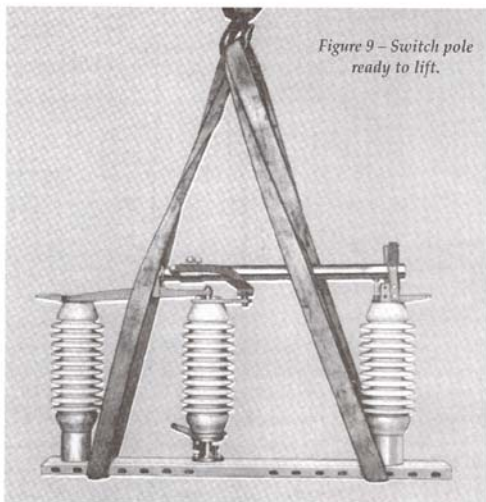

Figure 9 - Switch pole ready to lift.
A. CAUTION: Rigging used to lift switch poles should be attached to base! Lift poles onto structure, making sure the switch pole is in the closed and toggled position (Figure 9). It may be desirable to tie the fork to the strut to insure that the blade does not come open during lifting. Refer to the control arrangement drawing for proper placement of switch poles on structure.